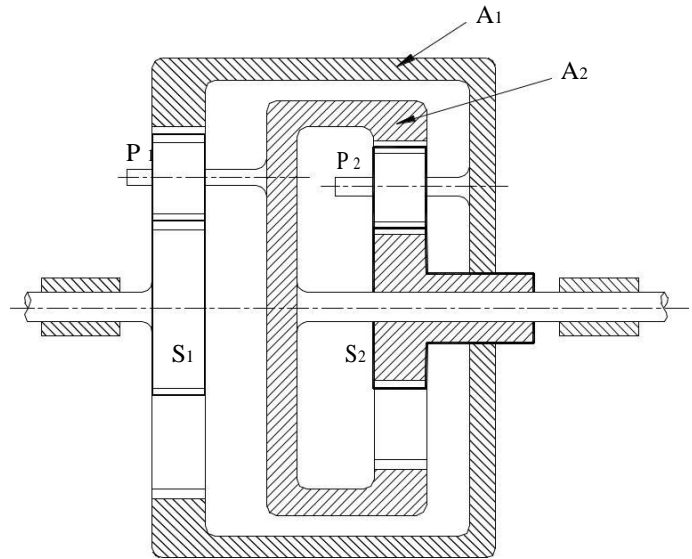

Figure 6
**Problem 8:** Find the velocity ratio of two co-axial shafts of the epicyclic gear train as shown in figure 6.  $S_1$  is the driver. The number of teeth on the gears are  $S_1 = 40$ ,  $A_1 = 120$ ,  $S_2 = 30$ ,  $A_2 = 100$  and the sun wheel  $S_2$  is fixed. Determine also the magnitude and direction of the torque required to fix  $S_2$ , if a torque of 300 N-m is applied in a clockwise direction to  $S_1$